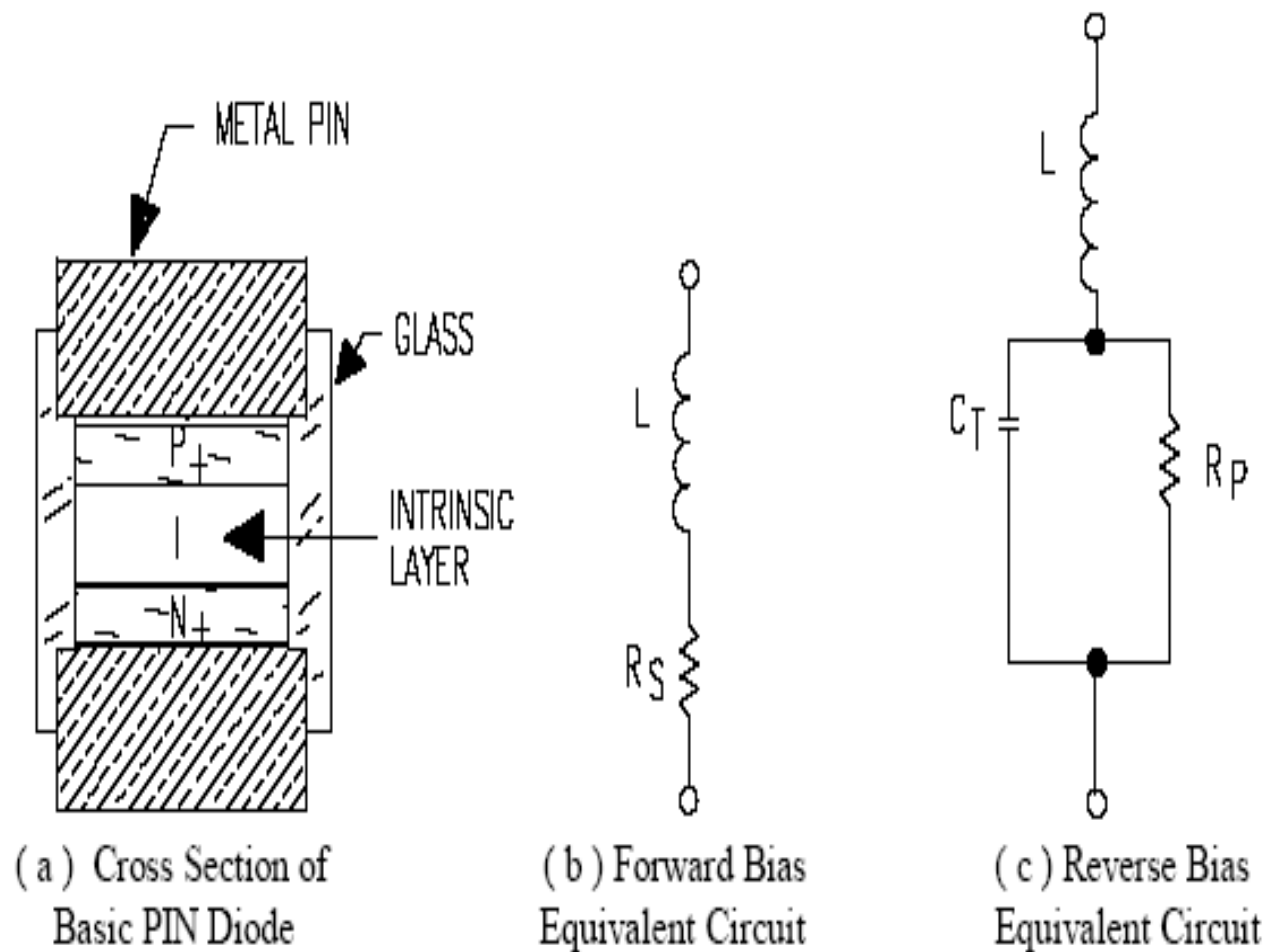

Figure 1.1 PIN Diode and the Corresponding Equivalent Circuits
- A drawing of a PIN diode chip is shown in Figure 1.1 (a). The performance characteristics of the PIN diode depend mainly on the chip geometry and the processed semiconductor material in the intrinsic or I - region, of the finished diode.